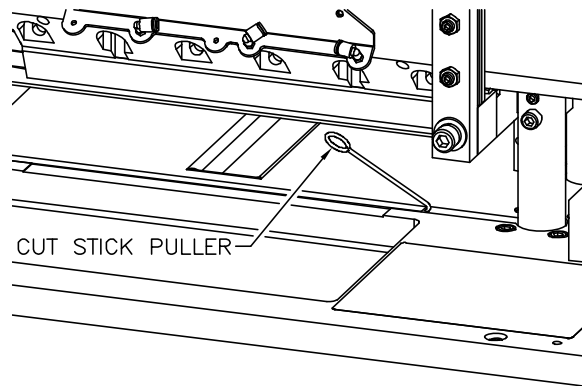

Figure 4-7. Pulling Cut Stick Up
- Hook the Cut Stick Puller over the right end of the cut stick (Figure 4-7) with a finger in the loop of the puller. Keep the Cut Stick Puller in-line with the cut stick.
- Pull the Cut Stick Puller at a slight angle (Figure 4-7) over the cut stick until the end of the cut stick comes out of the table.